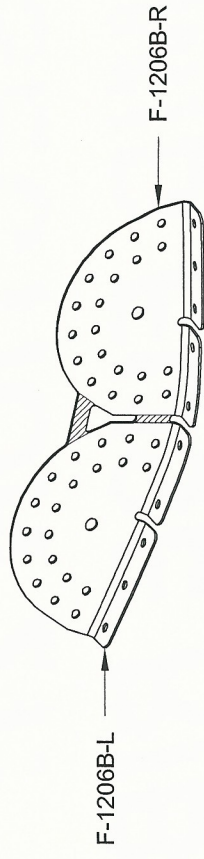

FIGURE 3: SEPARATE F-1206B
Step 6: Separate the F-1206B Rear Spar Receptacle Support by removing the hatched areas shown in Figure 3.